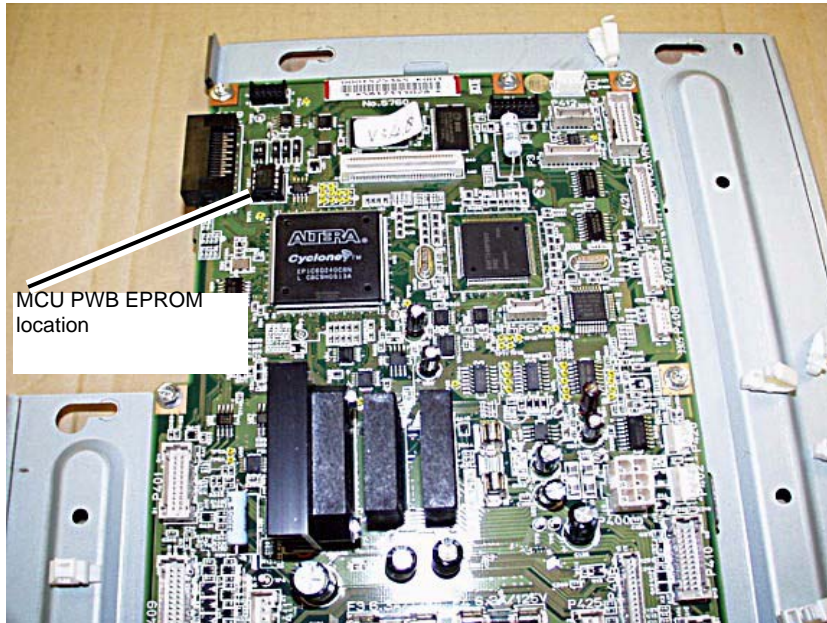

Figure 5 MCU PWB EPROM Location
3. Install the EPROM from the old MCU PWB on the new MCU PWB. (Figure 5)